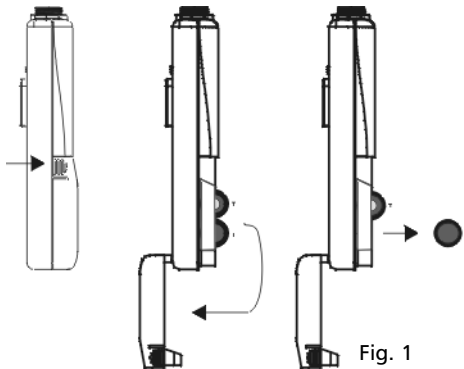

Fig. 1
1. Push down the two snap locks on the right and left of the battery compartment and open it. Remove the batteries. Refer to Fig. 1.